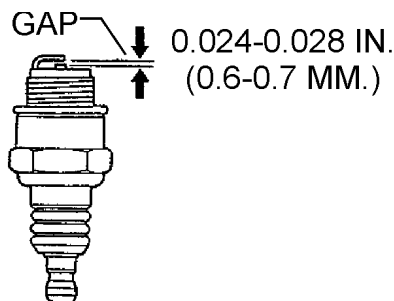

Figure 29. Spark Plug Gap
3. Remove and clean the spark plug (Figure 29), then adjust the spark gap to 0.028~0.031 inch (0.6~0.7 mm). This unit has electronic ignition, which requires no adjustments.